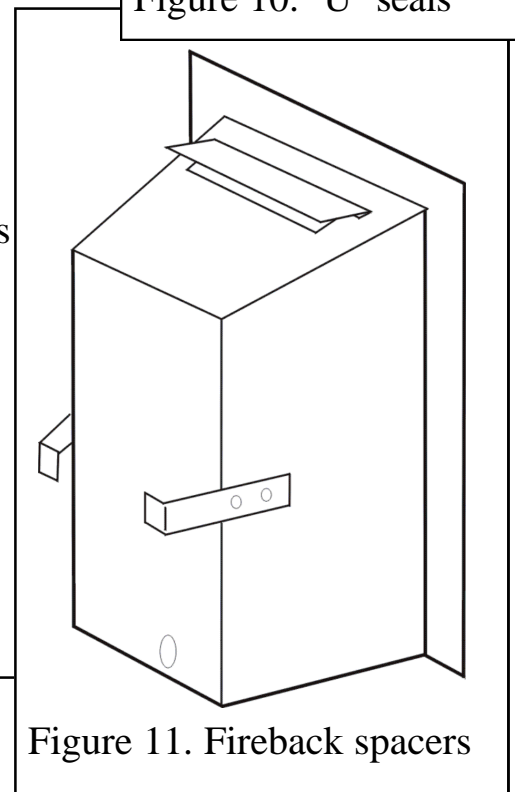

Figure 11. Fireback spacers
5. The appliance is supplied with two fireback spacers. **Do not fit the fireback spacers if the fire is to be installed into a precast or clay flue block system as in section 3.2.3.** These should extend backwards to ensure sufficient clearance from the back of the fireplace. Remove the label and retaining screws from the rear sides of the hotbox. Position the fireback spacer as shown in figure 11. Secure the fireback spacers using the screws removed previously and the two supplied with the fire.